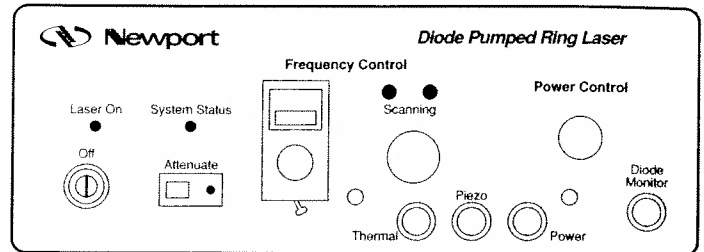

Fig. 4. – Laser interconnections.
- Laser interconnections: Plug the power cords in for the laser. Turn Power Control knob (Fig. 4) fully clockwise, to get maximum power (30 to 35 mW) and turn ON/OFF key to ON. Wait 20 seconds. System status LED should be ON. Press the Attenuate button (toggle switch) firmly to turn output laser power ON/OFF. The Attenuate LED is ON to indicate laser power is ON. Refer to the instruction manual for proper operating procedure for the laser. Use the IR sensor card to sense the beam.